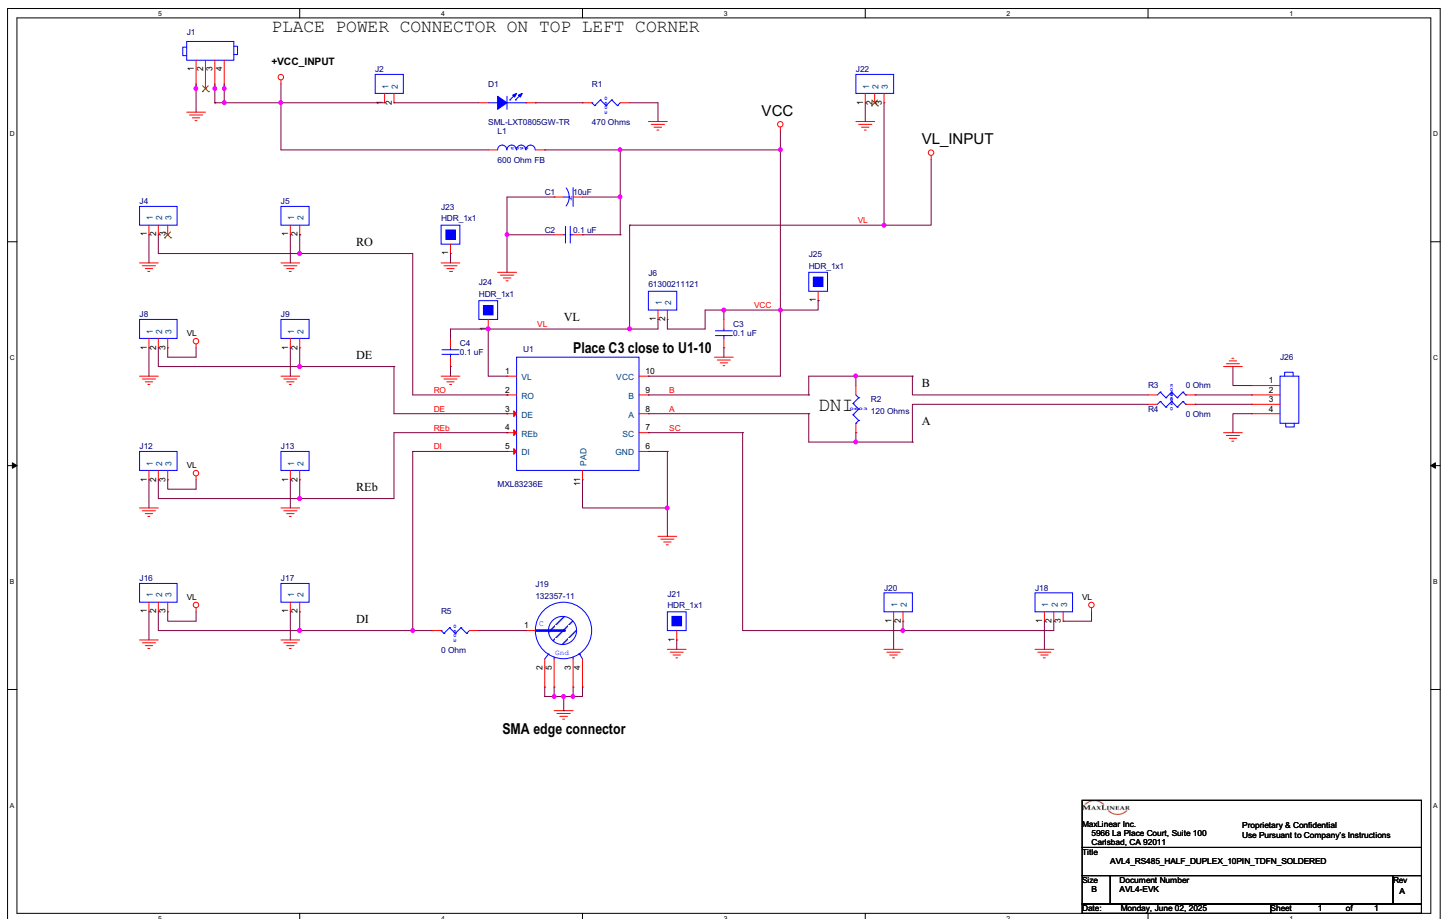

Figure 3: MxL83236 EVK Schematic
- Figure 3 on page 3 shows the schematic of the EVK.